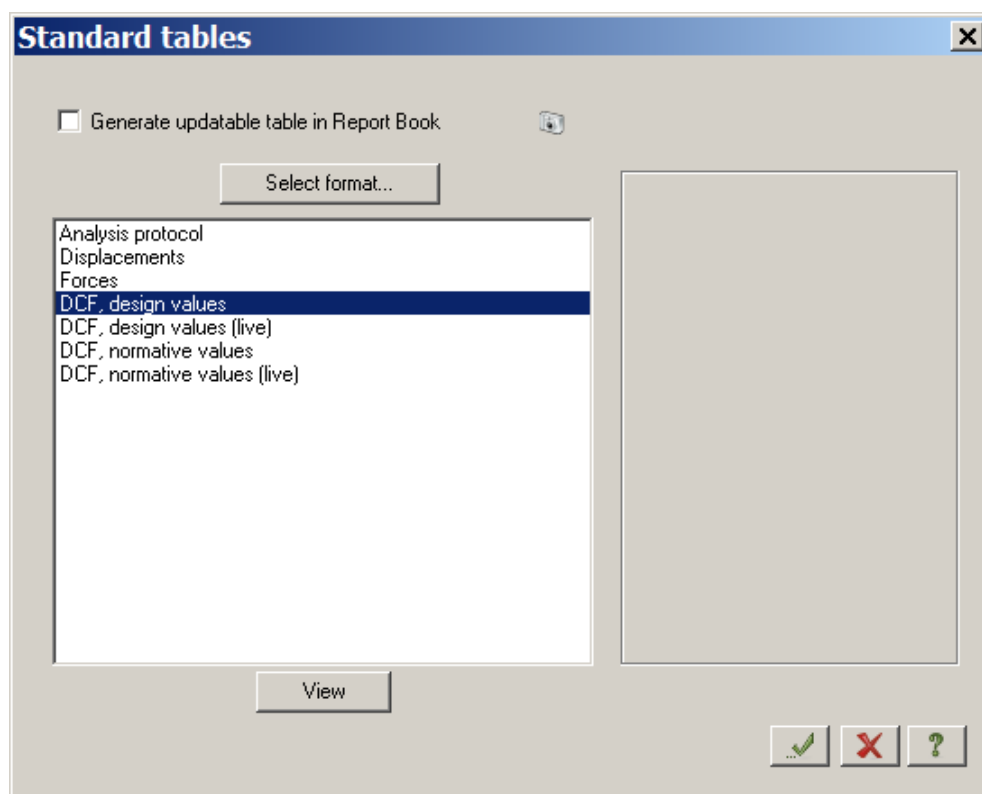

Figure 2.20 **Standard tables** dialog box
- ⇒ In the **Standard tables** dialog box (see Fig.2.20), select **Design combinations of forces, design values** in the list.